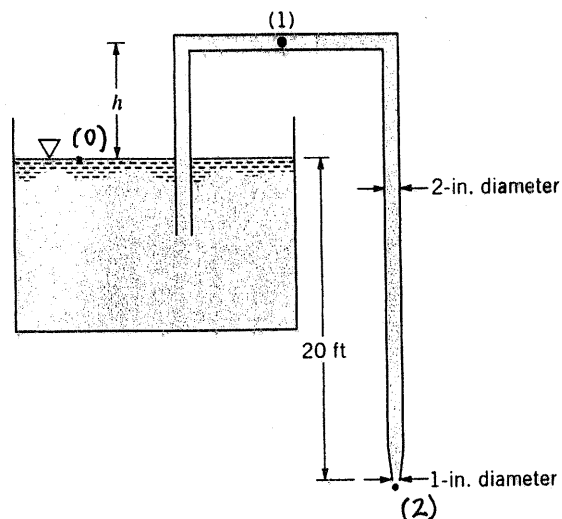

FIGURE P3.65
3.65 Water is siphoned from a large open tank through a 2-in.-diameter hose and discharged into the atmosphere (at standard atmospheric pressure) through a nozzle with a tip diameter of 1 in. as shown in Fig. P3.65. Determine the height h so that the pressure at point (1) is equal to 8.0 psi (abs). Assume that viscous effects are negligible.